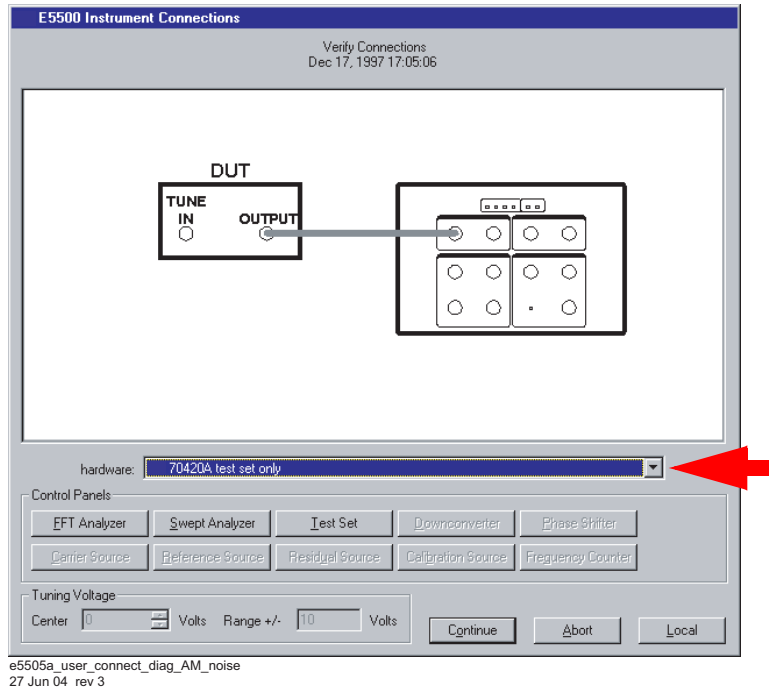

Figure 246 Connect diagram for the AM noise measurement
- 3 When the **Connect Diagram** dialog box appears, click on the hardware drop-down arrow and select your hardware configuration from the list. See Figure 246 on page 308.